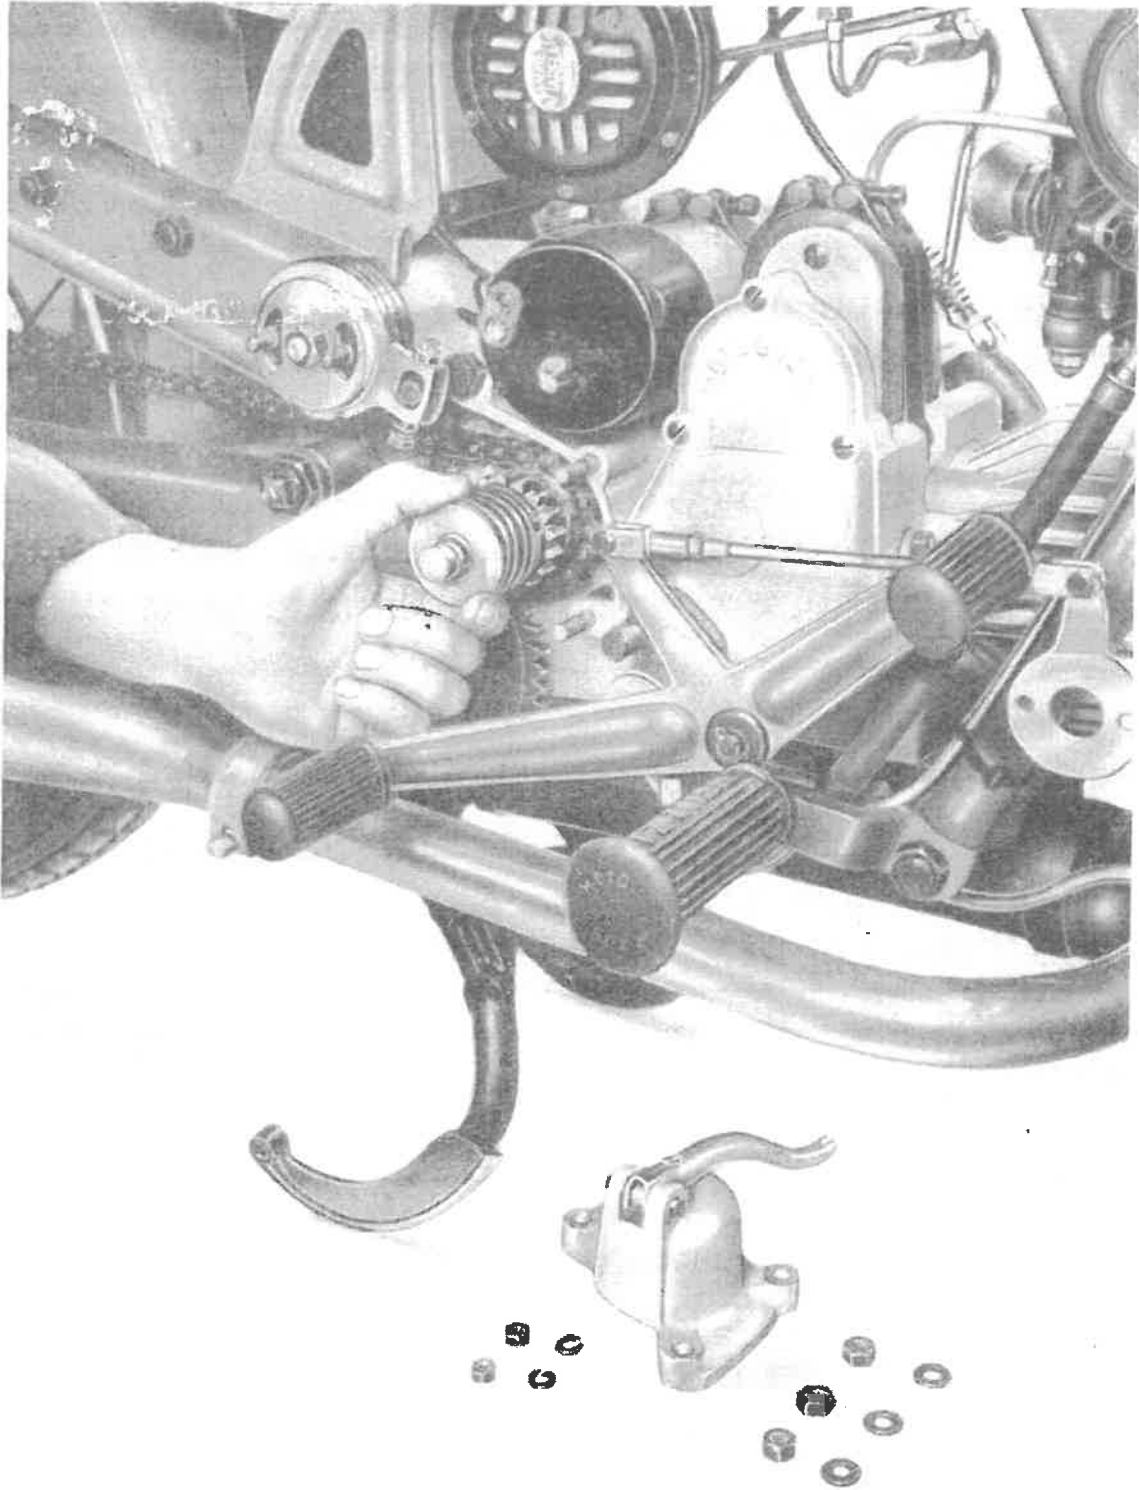

Fig. 9
- 2) The clutch slips, ie. sliding between the discs occurs even when the control is in the "fully engaged" position. This is due to springs that are too tight. Remedy: (after removing the clutch spring cover), screw in the knurled disc or replace the springs (see fig. 9).